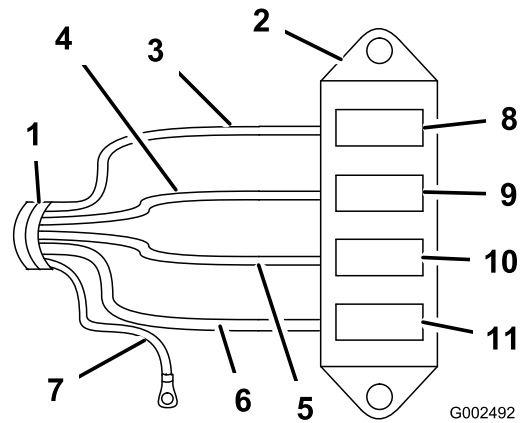

Figure 11
7. Wire the electrical harness to the fuse block by joining the wires in the harness to the corresponding wire connectors in the back of the fuse block (Figure 11).